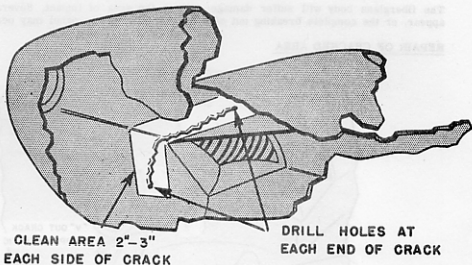

FIG. 2
3. Drill a small hole on each end of crack line to prevent extension of crack beyond repaired area at later date (See Figure 2).
4. Should a break or crack through the thickness of the body be encountered, clean all foreign material (undercoating, mud, etc.) from underside of the damaged area with a disc sander, rough sandpaper, etc. 2" to 3" all around the crack or break. (See Figure 2).
- Thoroughly clean 2" to 3" all around hole on underside of the damaged area as indicated in Figure 2.